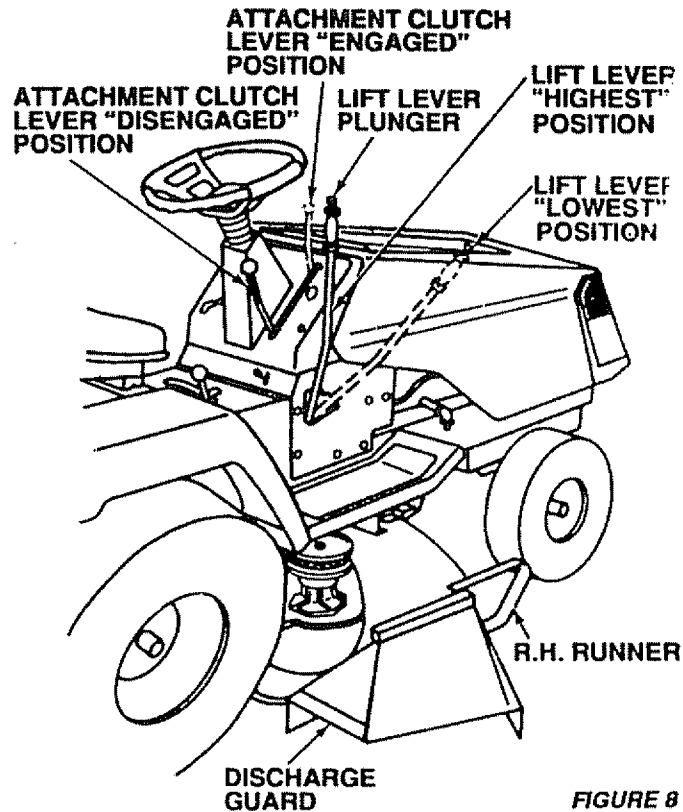

FIGURE 8
- Depress lift lever plunger and move the attachment lift lever to the highest position. See Fig. 8.
- Move throttle lever to half throttle and slowly move attachment clutch lever to engaged position, Fig. 8.
- Use the runner on the R.H. side as a guide; the blade cuts approximately an inch outside the runner (Fig. 8).